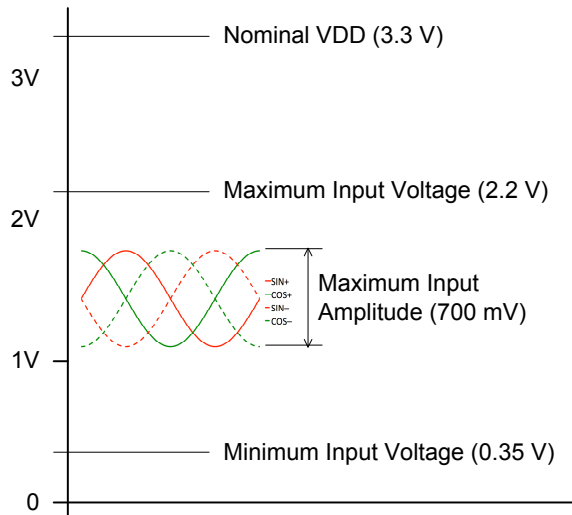
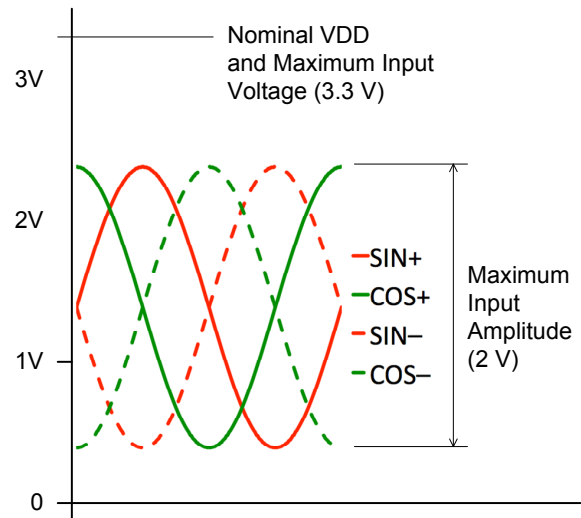

Figure 26: Low Input Range Signals
Figure 27: High Input Range Signals
Low input range accepts 13 - 700 mV peak amplitude differential sin/cos signals (6.5 - 350 mV peak amplitude per + or - input), as shown in Figure 26.
High input range accepts 38 mV - 2.0 V peak amplitude differential sin/cos signals (19 mV - 1.0 V peak amplitude per + or - input) as shown in Figure 27.
The common-mode (DC) voltage of the individual sensor inputs must be such that the peaks of the sin/cos signals do not exceed the maximum input voltages shown in Figure 26 and Figure 27.